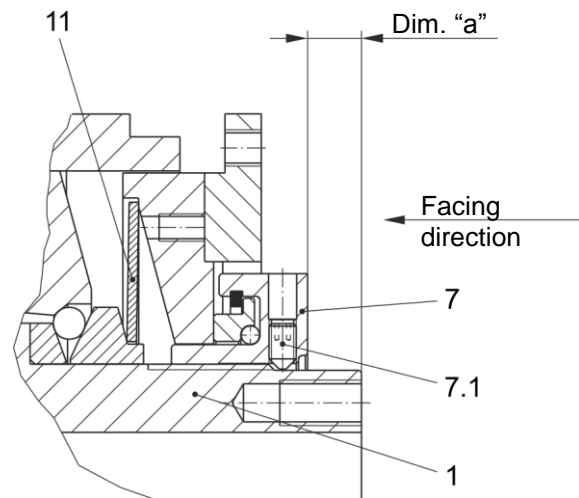

Fig. 9
You should be facing the adjusting nut (7) as shown in Figs. 9 and 10.
Alternatively, adjustment can be carried out via dimension "a" (Fig. 9) acc. Adjustment Diagram (if necessary, please order the Adjustment Diagram from the manufacturers).